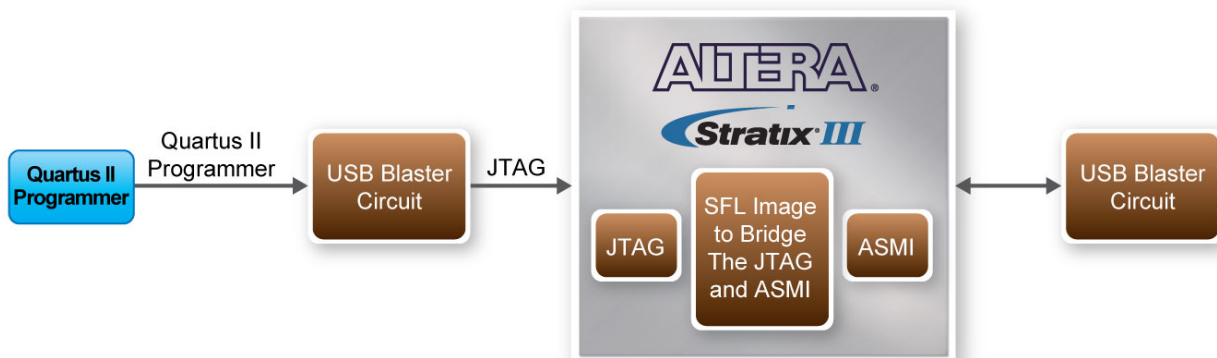

Figure 2.2. Programming a serial configuration device with the SFL solution
Since the *Active Serial* programming interface is not supported on the DE3 board, users will need to use a Serial Flash Loader (SFL) function to program the serial configuration device via the JTAG interface. The FPGA-based SFL is a soft intellectual property (IP) core within the FPGA that bridges the JTAG and flash interfaces. The SFL mega-function is available from Quartus II software. Figure 2.2 shows the programming method when adopting a SFL solution.